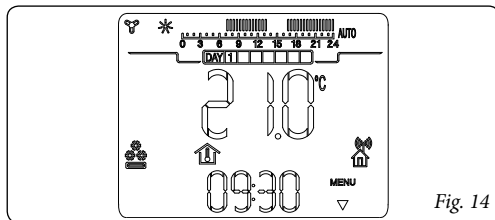

Fig. 14
- **Chiller control mode** (⊖). It is possible to enable CRONO 7 on control of a chiller for cooling environments (for enabling of this function, see par. 9.3). In "cooling" mode the CRONO 7 can function in automatic or manual mode. For the description of functioning see chapter 6. The display shows the day and current time, the room temperature and the hour bar with the daily programming of the cooling timer along with the relative symbols (fig. 14).